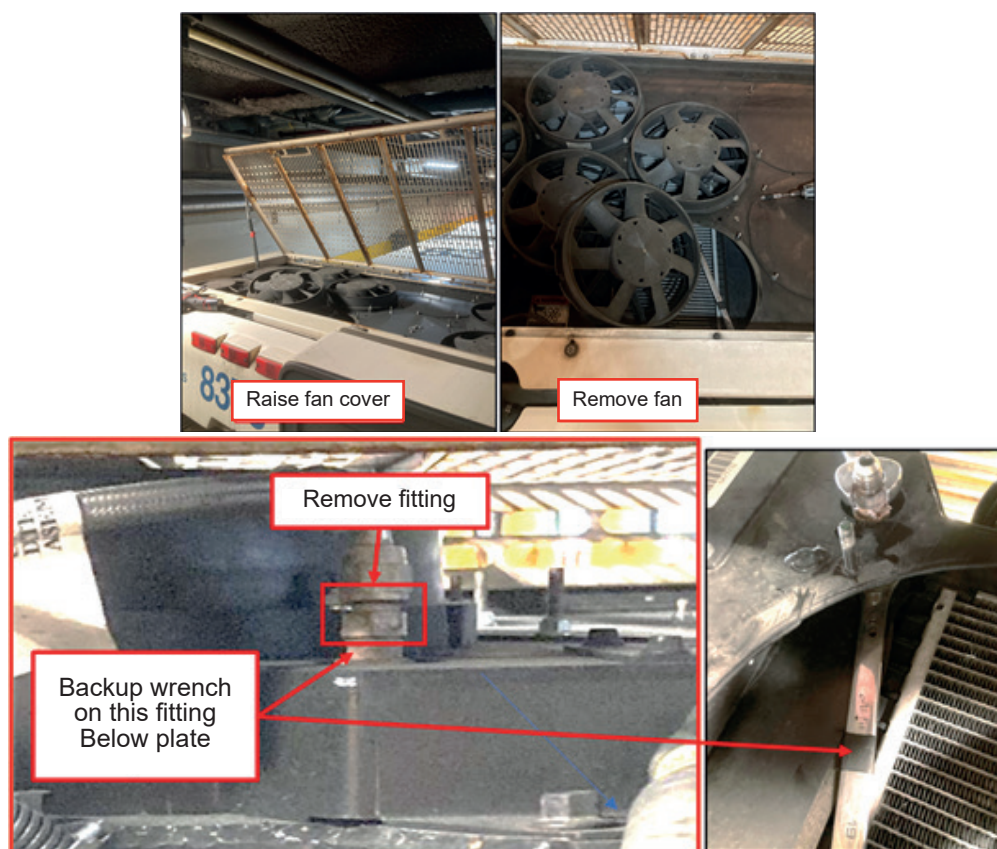

Figure 3 - Removal of Fan
- 1.7. Remove fan, if needed to place back up wrench onto radiator inlet vent fitting (see figure 3).